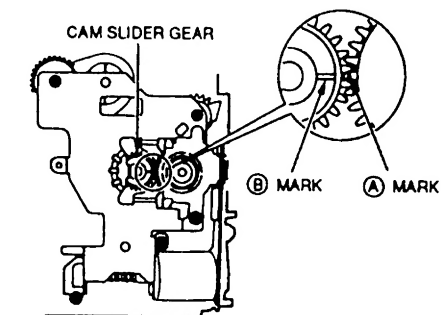

Fig 7.
* Connect a 6V battery to the loading motor until both the cam slider gear and mode select switch reach the reference position (refer to Fig 7).
- 1: Install the mode select switch in the reverse order. When mounting the mode select switch, align the mode select switch's (A) mark with the (B) mark on the cam slider gear as shown in Fig 7.